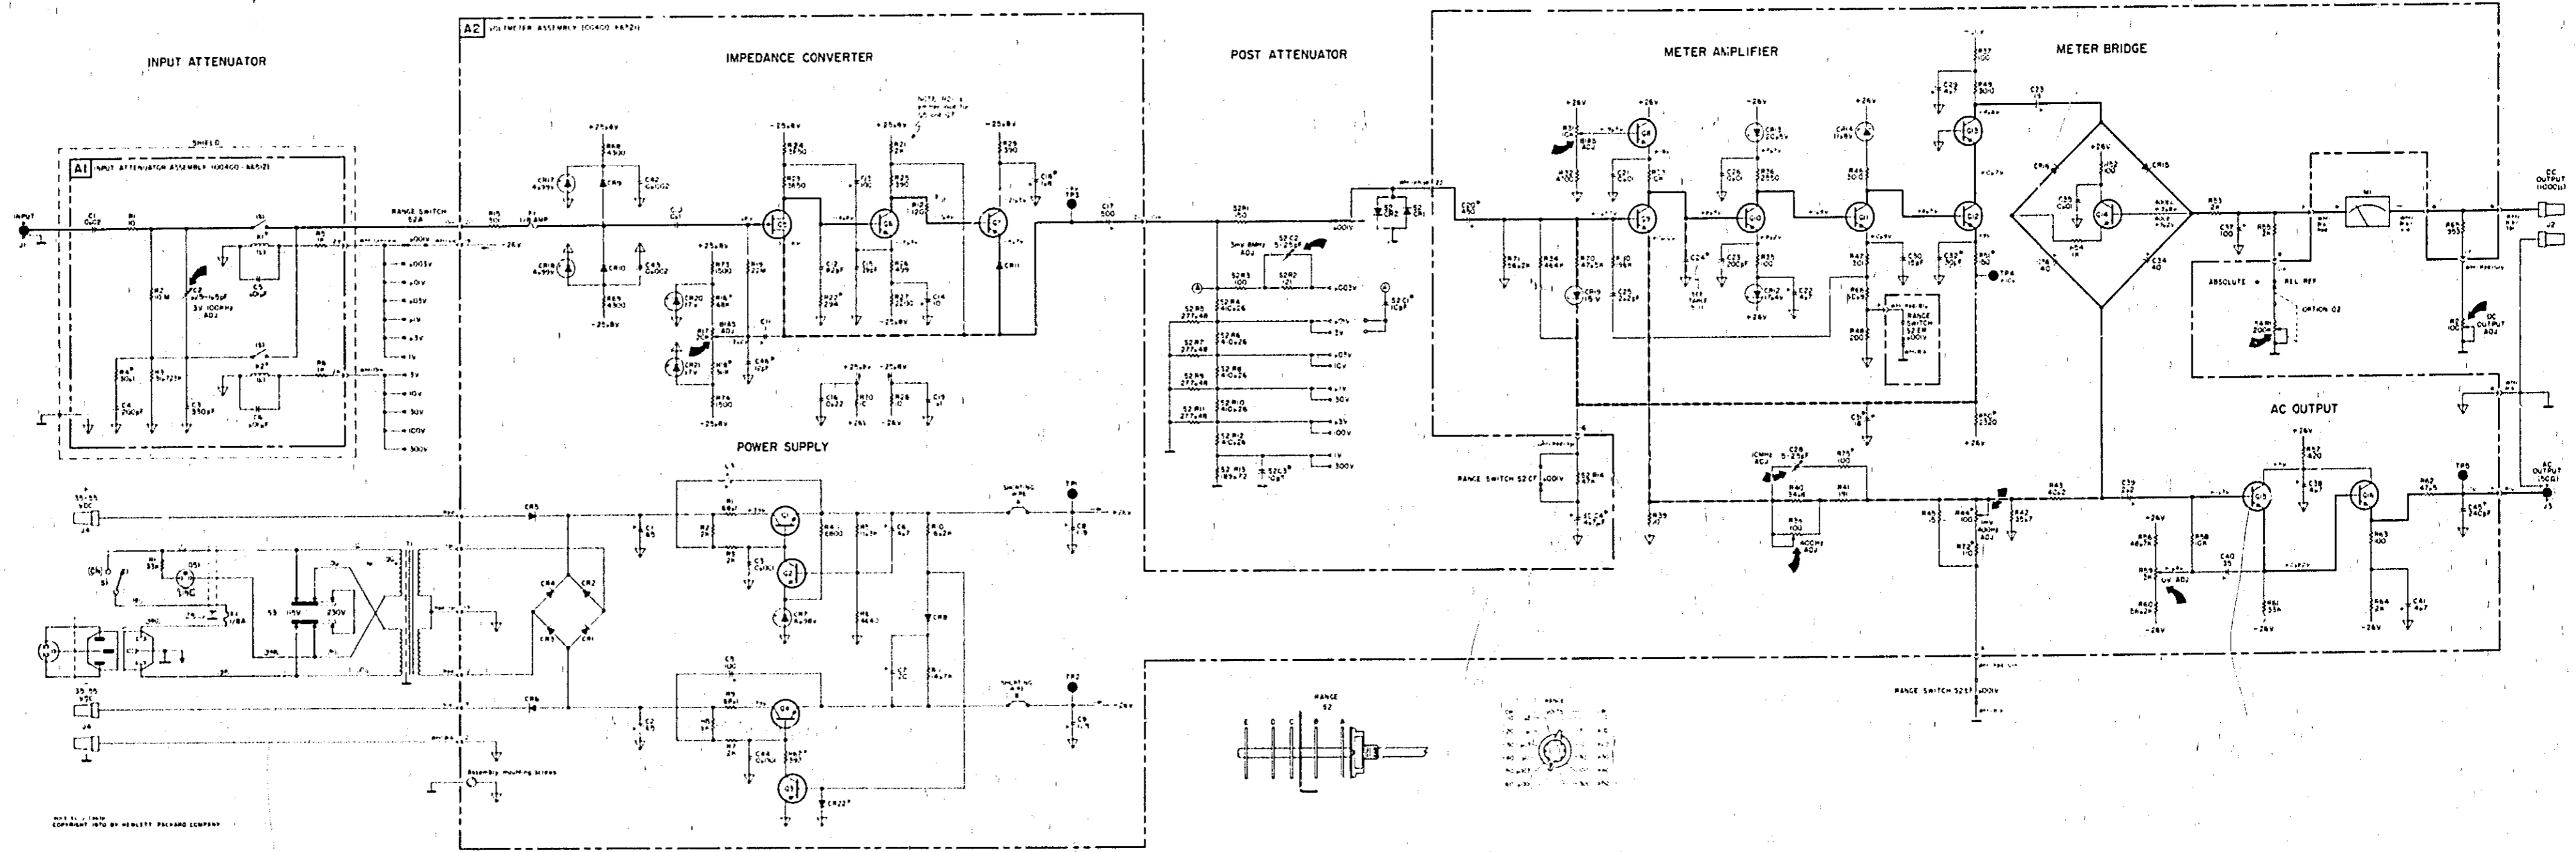

Figure 7-1. 400E/EL Schematic Diagram and Location of Components
Section VI Replaceable Parts and Figure 7-1 Schematic Diagram:
CHANGE NO. 2 Section VI Replaceable Parts and Figure 7-1 Schematic Diagram:
If any of the parts listed in Change 2 are changed to values shown in Table 6-1 and Schematic Figure 7-1, app parts should be changed.
CHANGE NO. 3 Section VI Replaceable Parts and Figure 7-1 Schematic Diagram
CHANGE NO. 5 Table 6-1 Replaceable Parts and Figure 7-1 Schematic:
CHANGE NO. 6 Table 6-1 Replaceable Parts and Figure 7-1 Schematic
CHANGE NO. 7 Table 6-1 Replaceable Parts and Figure 7-1 Schematic.
CHANGE NO. 8 Table 6-1 Replaceable Parts and Figure 7-1 Schematic.
Page 7-3, Figure 7-1. Delete A2R12. A2Q6 collector is directly connected to A2Q7 base.**CHANGE NO. 16** Page 7-3, Figure 7-1. Delete the blue (6) jumper from A1 00400-66512 component: locator drawing.